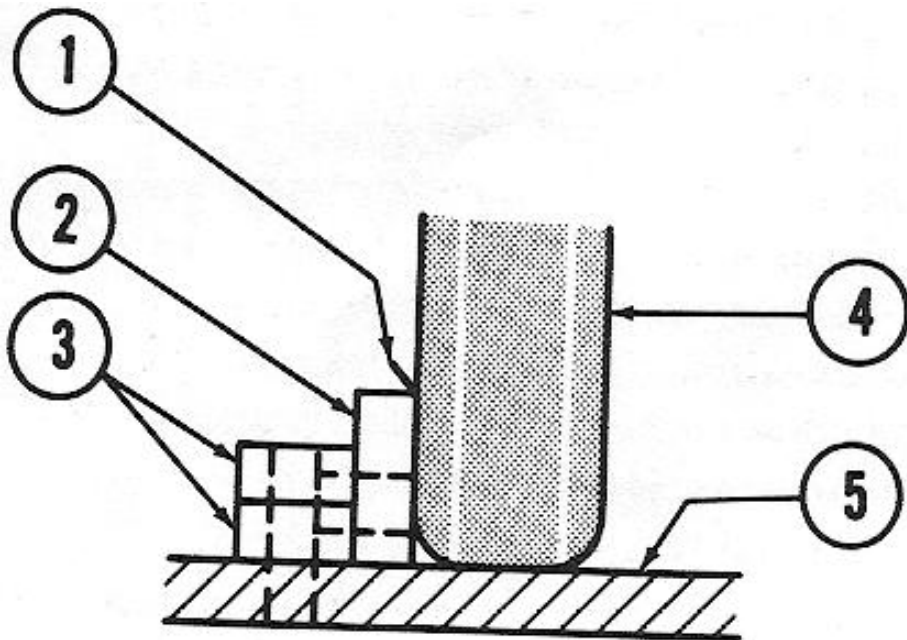

FIGURE 4-3. Wheel side cleats.
- (3) Wheel side cleats. Nail 2 x 6 to 2 x 4's with six 20-D nails. Place waterproof paper between tire and side cleat. Nail side cleat to flatcar floor with 40-D nails equally spaced. Refer to figure 4-3.